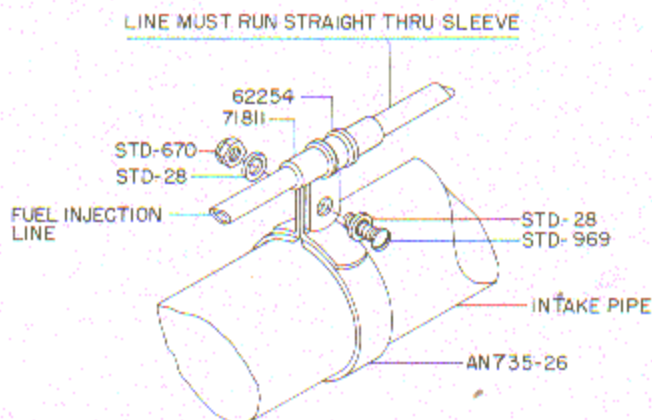

Figure 1. Method of Assembling New Parts.
- Assemble the bolt, washers and nuts as shown in figure 1.